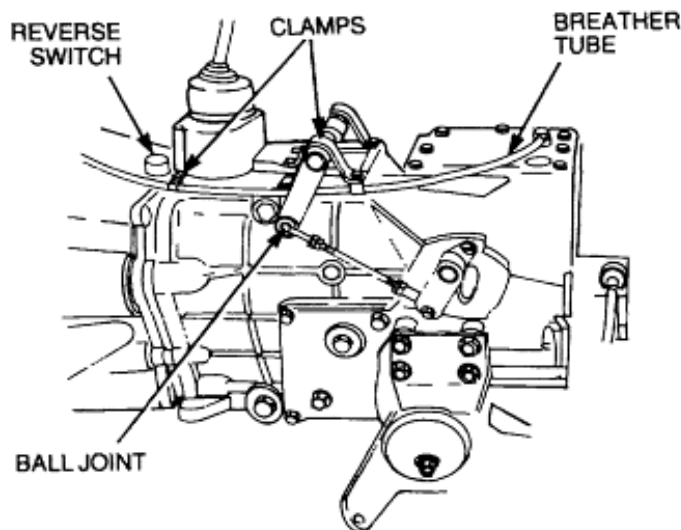

Figure 60 Top Cover Removal
- i. Disconnect the two wires from the reverse switch (Figure 60) and remove the switch.